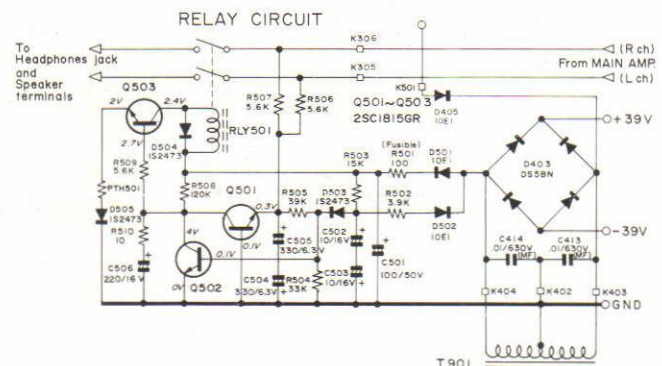

Figure 5-2
■ RELAY CIRCUIT (Refer to Figure 5-2)